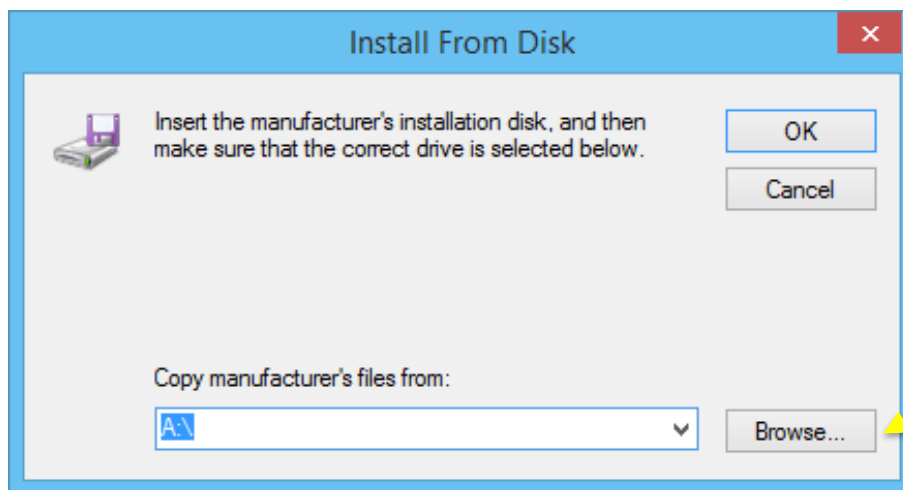

Figure 7
14. Check that the *Copy manufacturer's files from:* field in the *Install From Disk* window (see Figure 7) is populated with the location (path) of the *CoolLED-pE.inf* file.